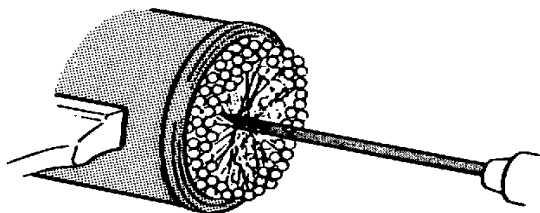

Fig. 63A. Flexhoning the cylinder liner
2. Place the liner in a vice, (fig. 63A). Flexhoning of the cylinder liner when it is installed is not recommended due to the oil channels becoming clogged and also the difficulties to feed correctly.